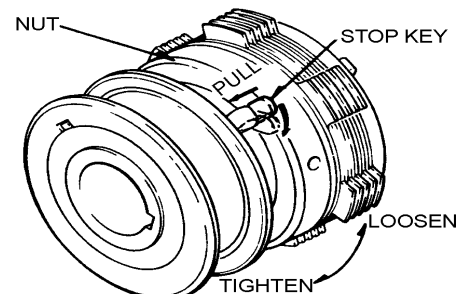

Figure 29. Clutch Adjustment
2. Pull out the stop key and turn to the release position (Figure 29).